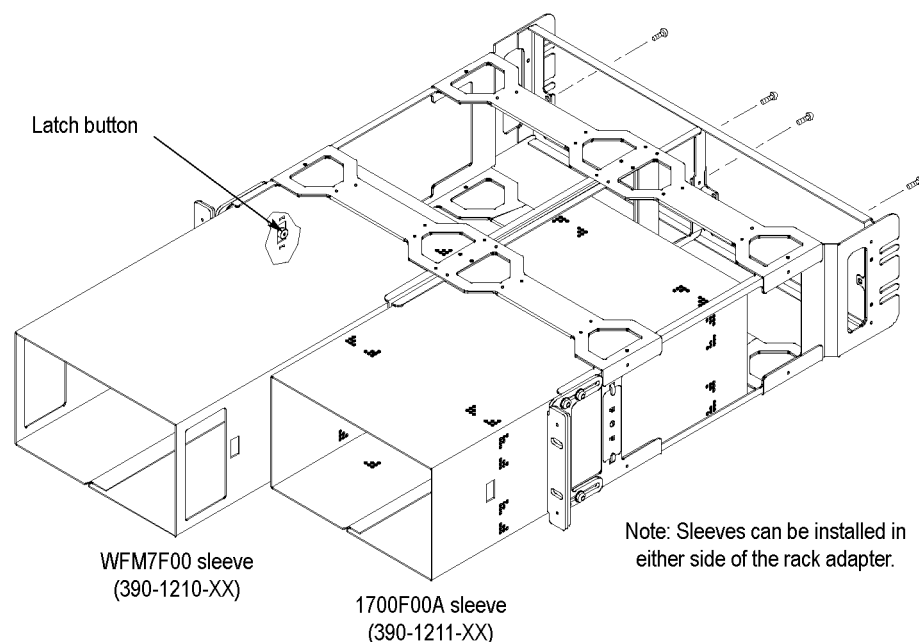

Figure 10: Installing the sleeves into the rack adapter. Only two sleeve types are shown in this example.
- Slide the sleeve into the desired half of the rack adapter, depressing the button on the inside front of the rack adapter as needed to insert the sleeve. (See Figure 10.)